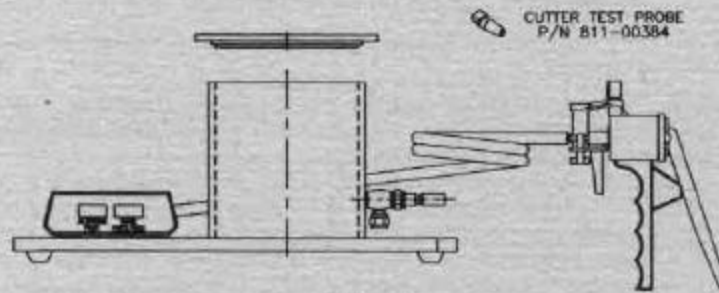

Figure 11
9.1 During every repack of the parachute, a functional test is recommended on the ASTRA, using the Cutter Test Probe and the Portable Altitude Test Chamber (see Figure 11).